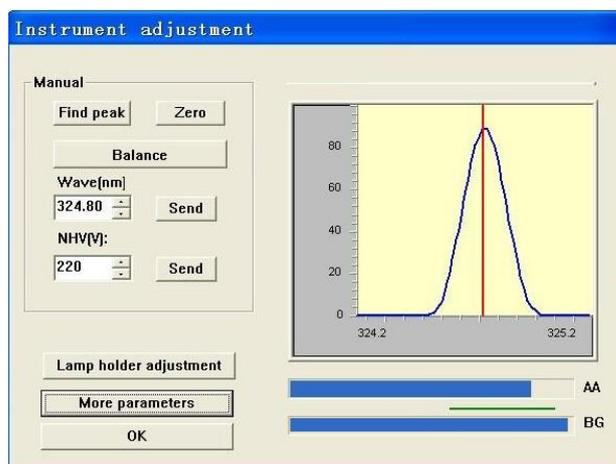

Figure 6-5
7. After light source correction has been completed, as shown in Figure 6-5, press "Balance" to balancing the deuterium lamp and the element lamp.